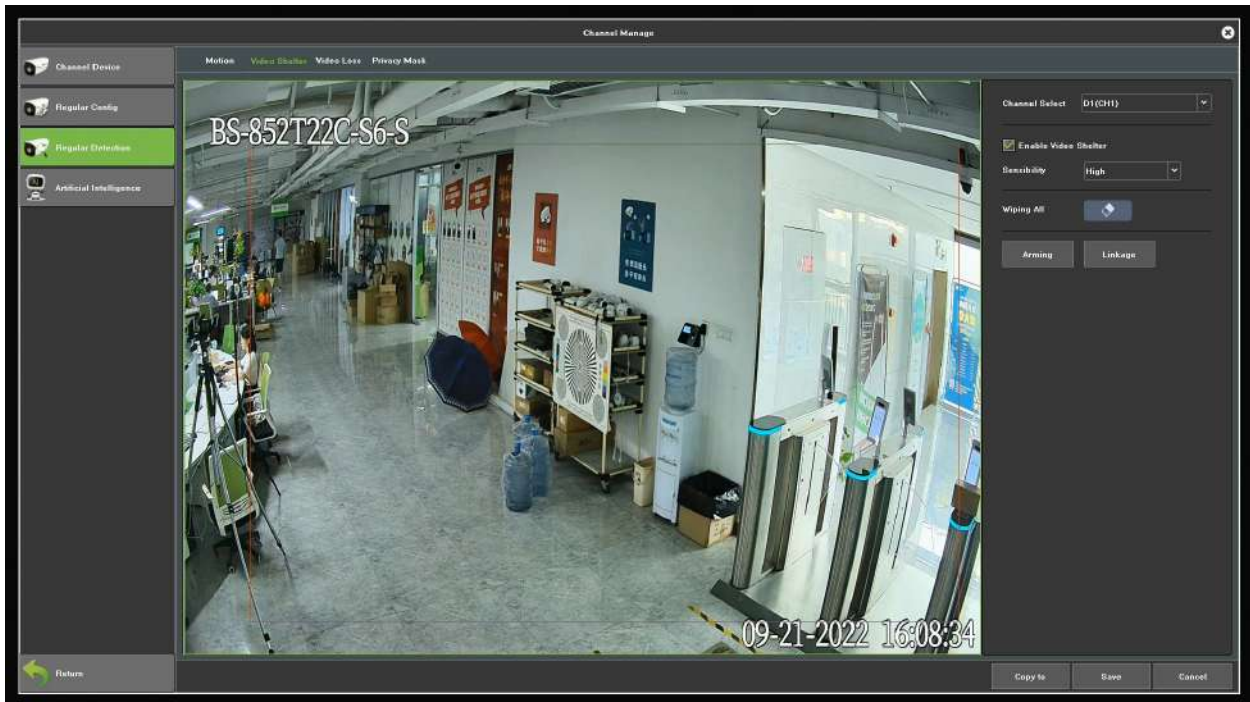

Figure7.17 Video Shelter
1. Enter Video Mask Alarm interface of channel parameter and choose a channel you want to setup Video Mask Alarm, as shown in Figure 7.17.